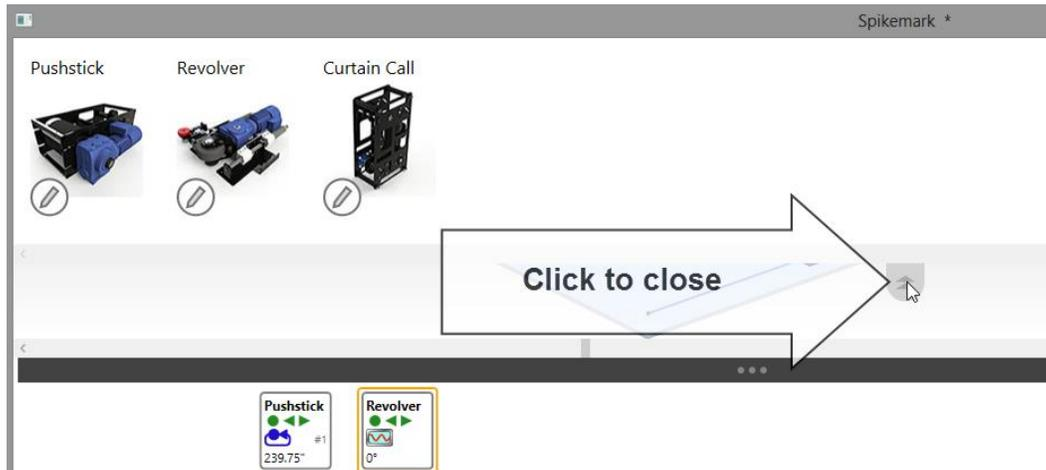

Figure 33
- We are finished with the **Machine Library** for now, so click the **Close Tab** to roll it up and out of the way (Figure 33).